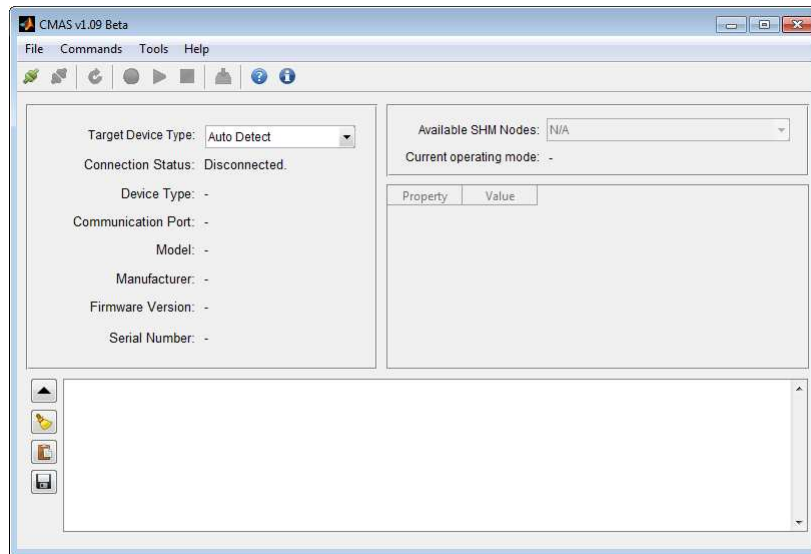

Figure 2.1: Main GUI window of CMAS.
- ✓ **Step 2.6** Confirm the main window appears as shown in Figure 2.1.